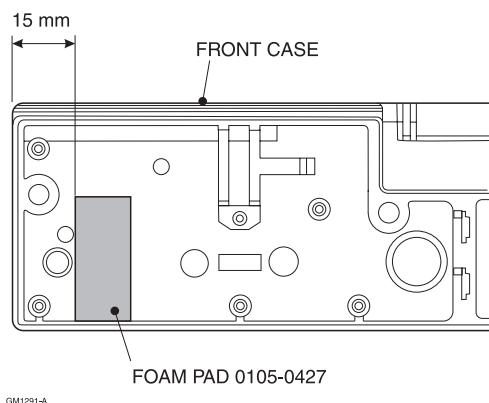

Figure 4-4 Foam pad position
3. Ensure that the foam pad is fitted to the inside of the front case (see *Figure 4-4, Foam pad position*). Place the front case half (item 2) over the PCB and hold it in position. Turn the PCB and case over so that the PCB is uppermost. Check that the leads for the motor and battery connector springs are not trapped.